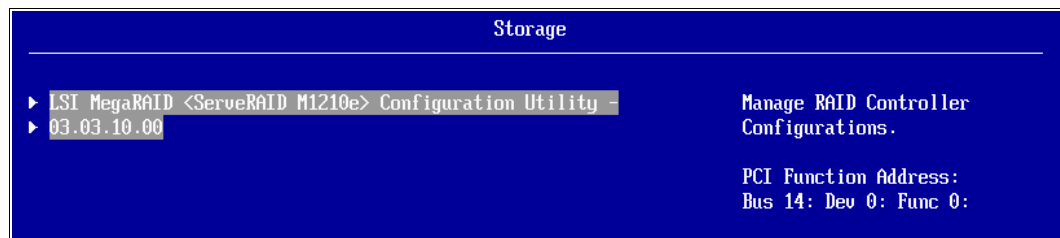

Figure 5-31 Drive Sharing mode enabled displaying primary node raid controller only
3. After the system has restarted, access the UEFI menu again by pressing **F1** at the splash screen and then clicking **System Settings** → **Storage**. As shown in Figure 5-31, only a single M1210e controller is now listed. Browsing the controller will show all physical drives in the complex listed under it. The M1210e controller of the secondary node will not be displayed.